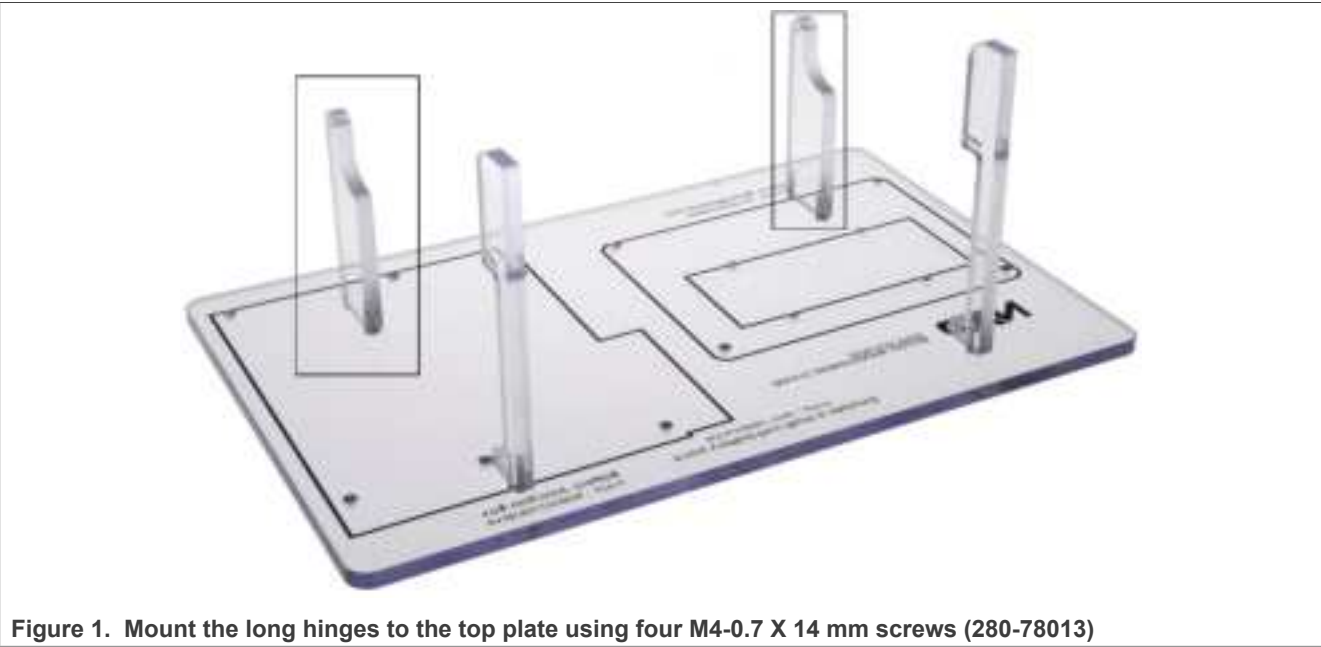
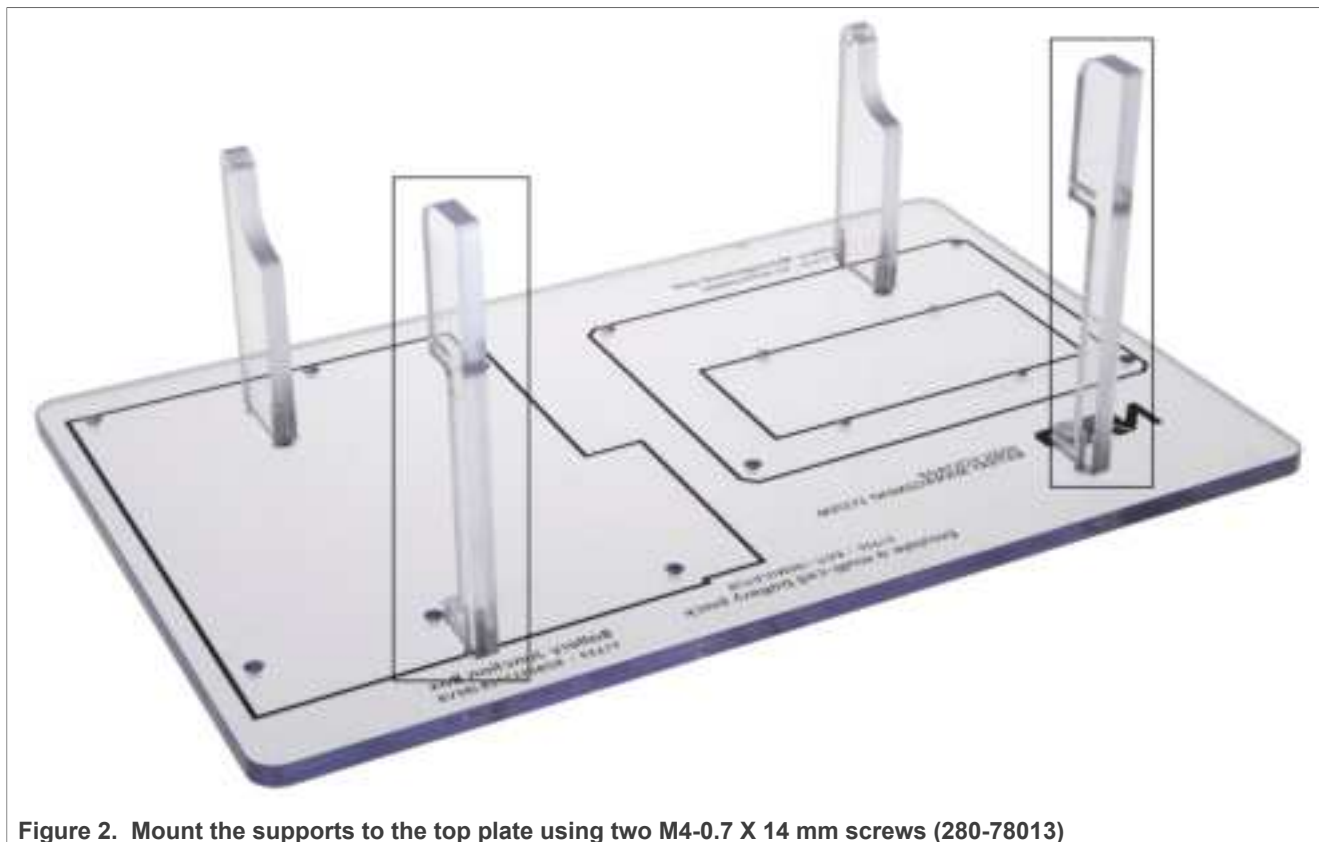

Figure 1. Mount the long hinges to the top plate using four M4-0.7 X 14 mm screws (280-78013)
Figure 2. Mount the supports to the top plate using two M4-0.7 X 14 mm screws (280-78013)
- 1. Mount both 95 mm side parts (800-76228) using two M4-0.7 X 14 mm screws (280-78013) according to Figure 1 and Figure 2.
- 2. Mount both 145 mm supports (800-76232) to the top plate using two M4-0.7 X 14 mm screws (280-78013) according to Figure 1 and Figure 2.